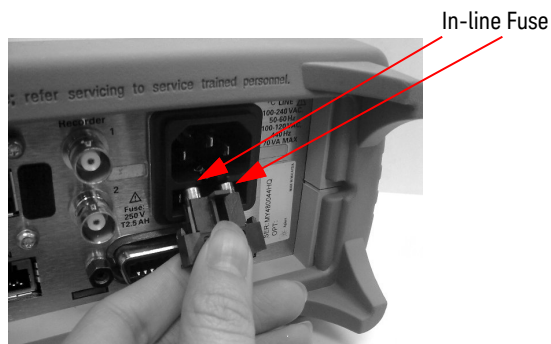

Figure 12-3 Replacing the fuses
- 1 Slide the fuse holder assembly from the rear panel as shown in **Figure 12-3**.
- 2 Install the correct fuses in the respective “In line” positions as shown in **Figure 12-3**. (The N1913B/1914B requires two fuses.)